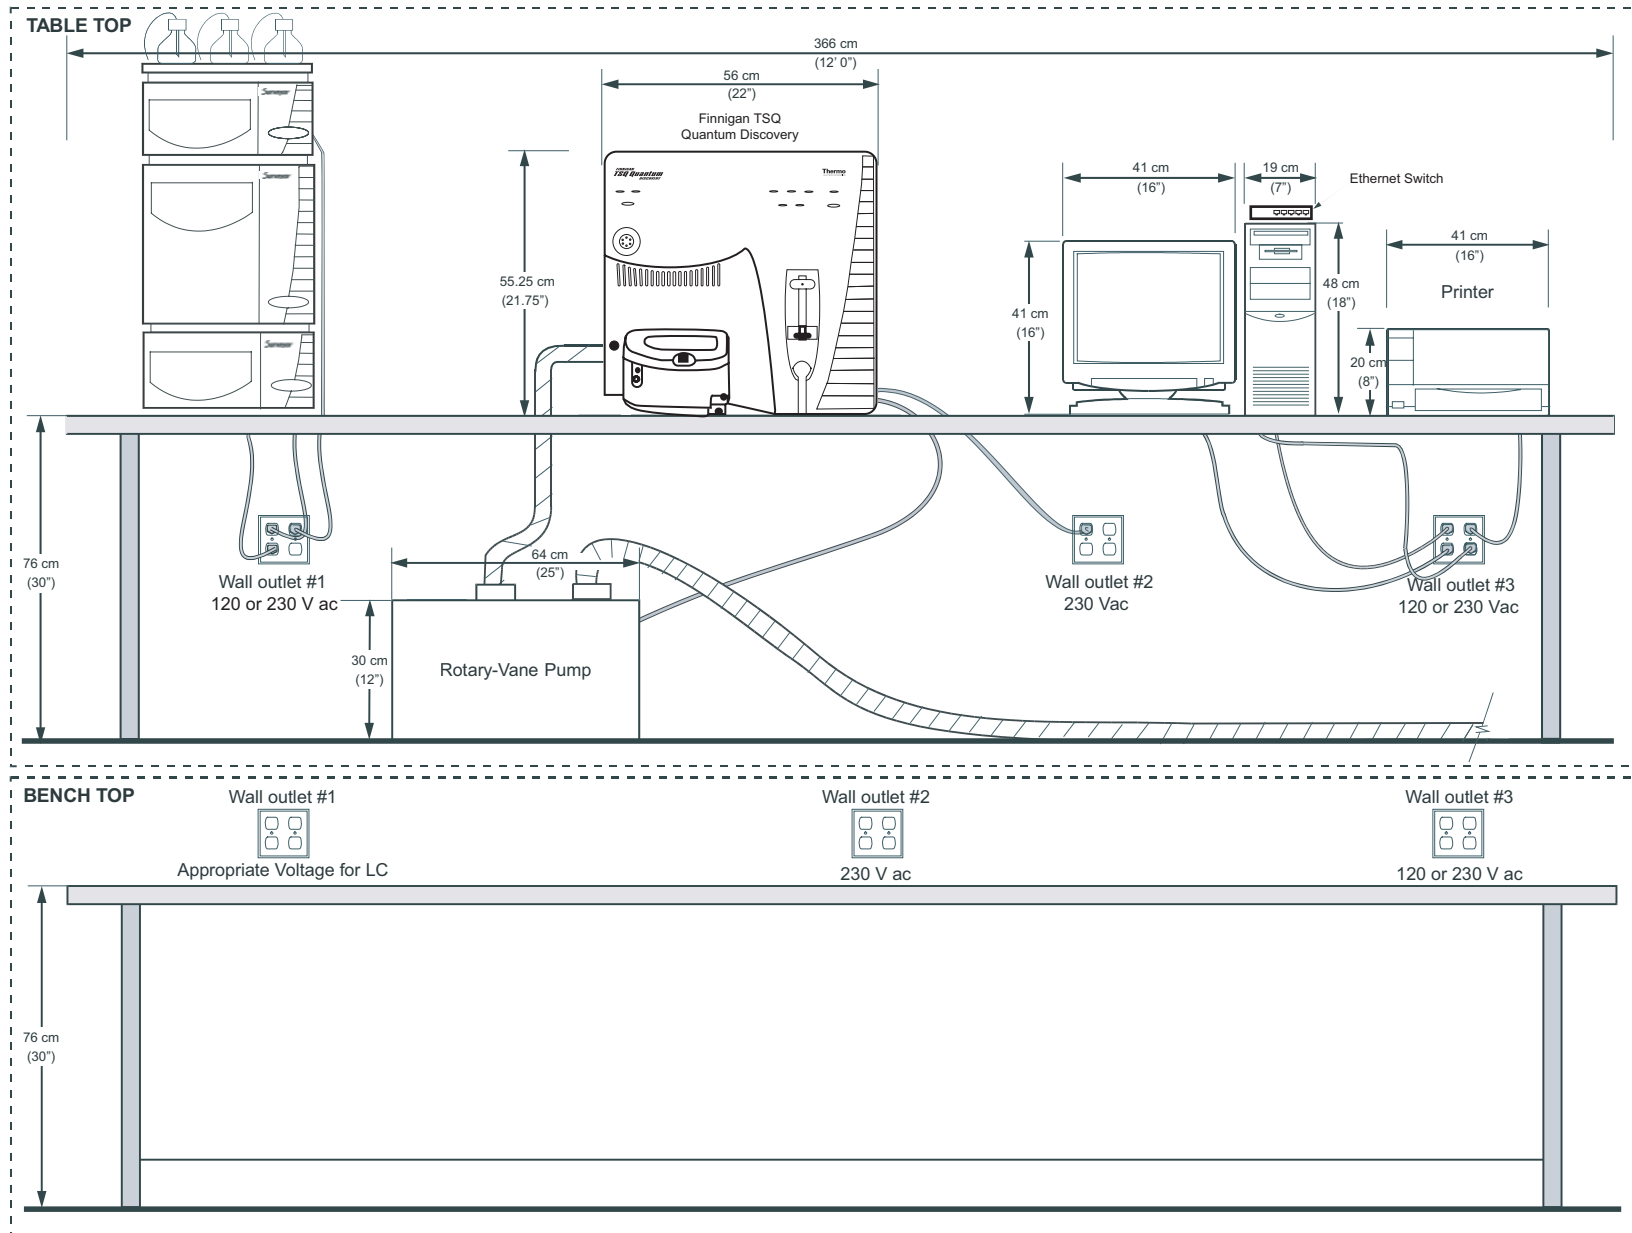

Figure 2-1. Installation and space requirements for your TSQ Quantum Discovery system
The recommended layout for the TSQ Quantum Discovery system is shown in Figure 2-1. The space requirements and weights of the components of the typical TSQ Quantum Discovery system are given in Table 2-2.
- If the workbench has space underneath it, place the forepump underneath the workbench immediately behind the TSQ Quantum Discovery mass spectrometer. (See the Table Top layout in Figure 2-1.) Either run the vacuum hose behind the workbench or make a 64 mm (2.5 in.) diameter hole through the bench for the vacuum hose. Allow for room to run the power cord from the forepump through the hole.